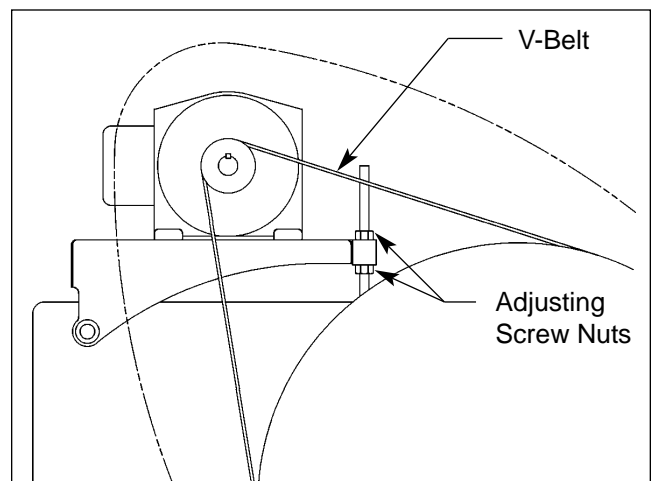

Figure 4C. Installing v-belts.
2. Using the adjusting screw nuts, lower the main drive motor toward the flywheel until v-belts can be slipped over motor sheave and flywheel without strain. (See Figure 4C.)